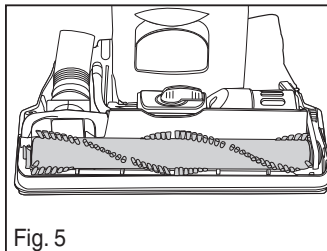

Fig. 5
- 8) Align brush roll left end cap with base and push into place. Push right end cap into base until it snaps into place (Fig. 5).
- 1) Remove 6 screws and brush roll cover (Fig 5).